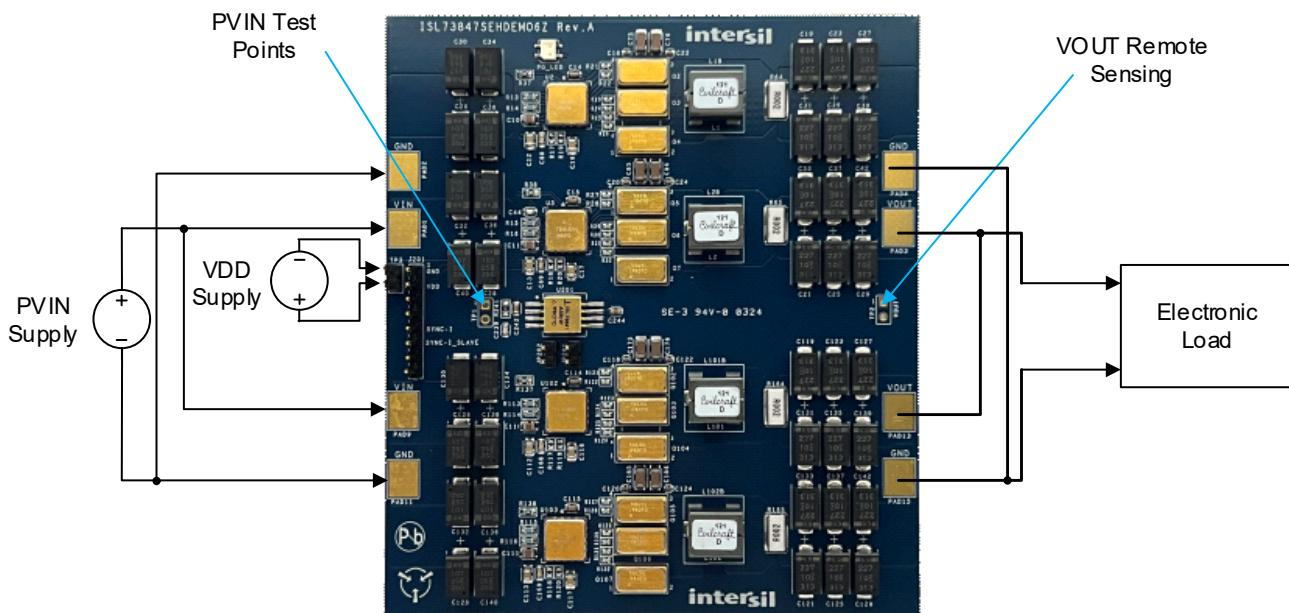

Figure 3. ISL73847SEHDEMO6ZBoard Setup
- Apply a 5V voltage to the PVIN pads as shown in Figure 3. To monitor PVIN on the board use TP1.
- Apply a 9V to 13.2V voltage to the VDD TP3 jumper as shown in Figure 3 to use the on-board clock generator. If using a custom external clock generator VDD can be 5V to 13.2V.
- If required, a resistor or electronic load can be connected to the VOUT pads as shown in Figure 3. If using an electronic load, you can add 4W sense lines on the TP2 test jumper.